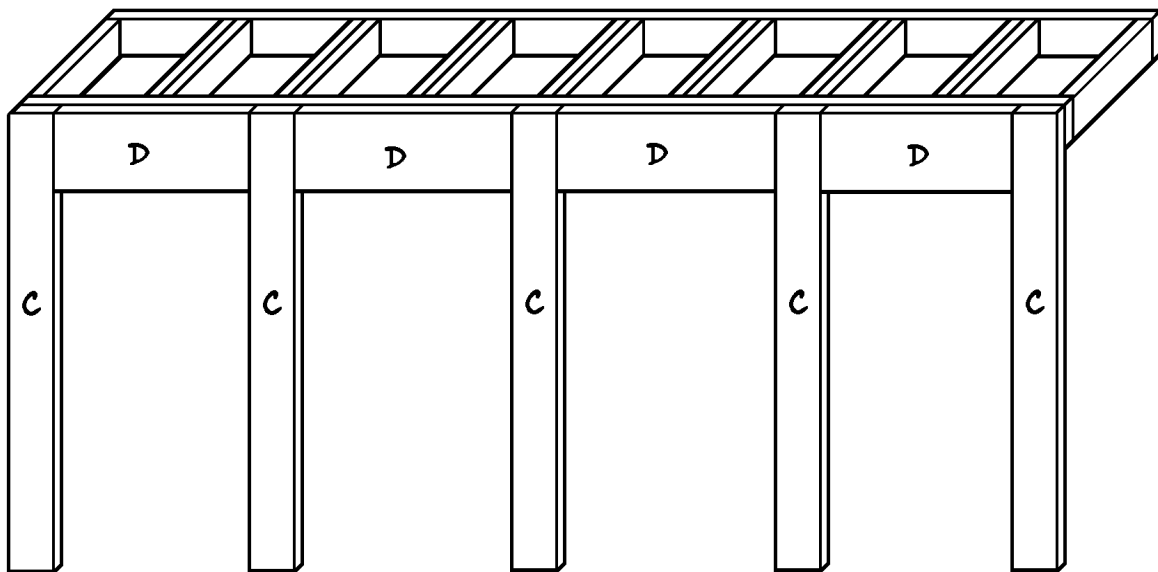
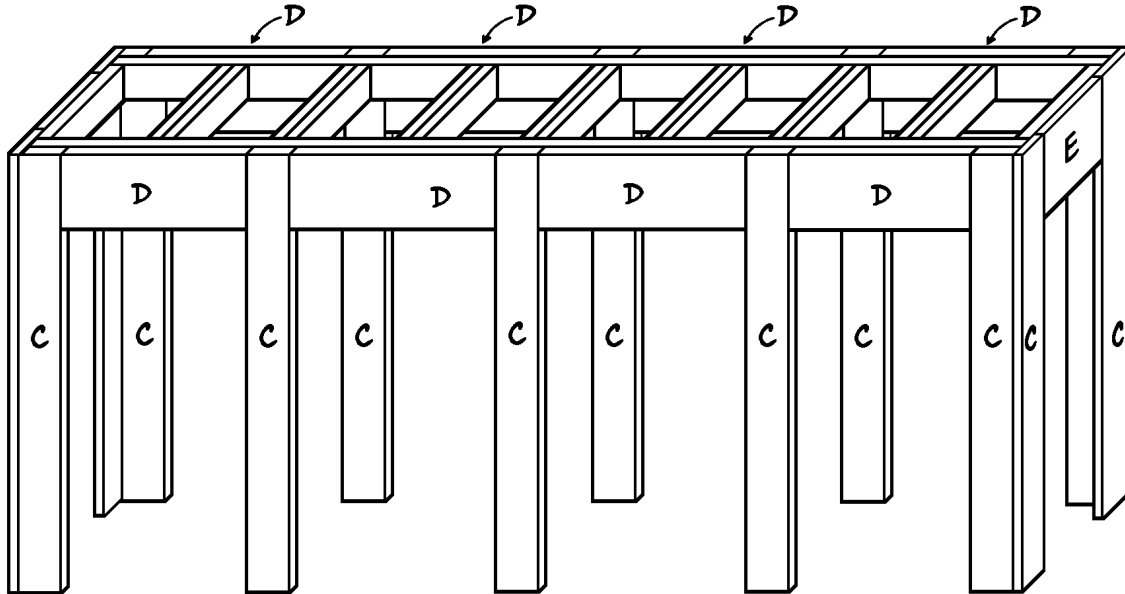

Figure 3
Figure 4
1. Cut fourteen 31"-long legs (C) from 1 x 4 pine.
2. Cut eight legs spacers (D) from 1 x 6 pine, each measuring 13-1/8" long.
3. To attach five legs (C) and four leg spacers (D) to one side of the inner frame, first refer to *Figure 3*. Note that the top ends of the legs (C) and the upper edges of the leg spacers (D) should be flush with the top edges of the inner frame. Glue the legs (C) and spacers (D) in place and insert two 1-1/4" screws through each leg spacer (D) into the inner frame.
4. Turn the assembly over and repeat Step 3 to attach five legs (C) and four leg spacers (D) to the other side of the inner frame.
5. Cut two short spacers (E) from 1 x 6 pine, each measuring 3-1/4" long.
6. To attach two legs (C) and one short spacer (E) to one end of the inner frame, first refer to *Figure 4*. Note that the legs (C) to be attached will overlap the edges of the legs (C) already in place. Glue the two legs (C) and short spacer (E) in place and insert two 1-1/4" screws at each joint. Also insert 1-1/2" screws to join the overlapped legs (C) together, spacing the screws about 6" apart down the length of the legs (C) you've just added.